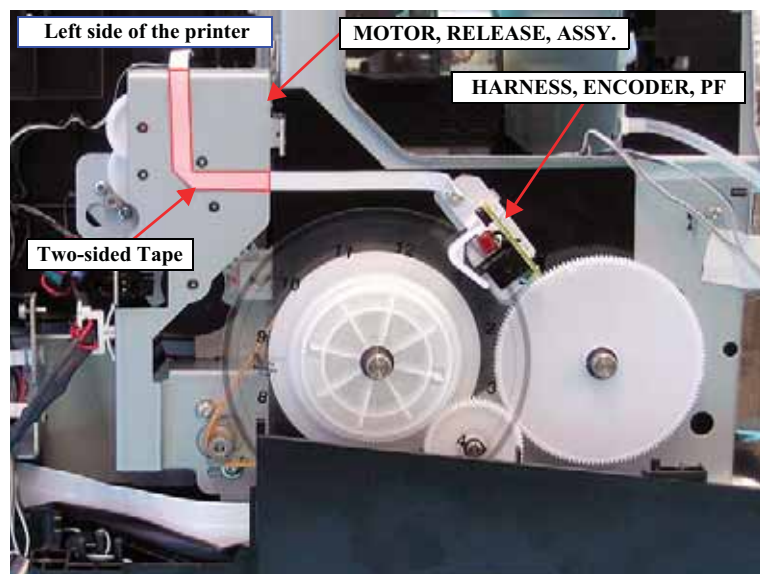

Figure 4-104. Removing the HARNESS, ENCODER, PF
6. Remove the HARNESS, ENCODER, PF secured to the MOTOR, RELEASE, ASSY., with the two-sided tape. *See Figure 4-104.*